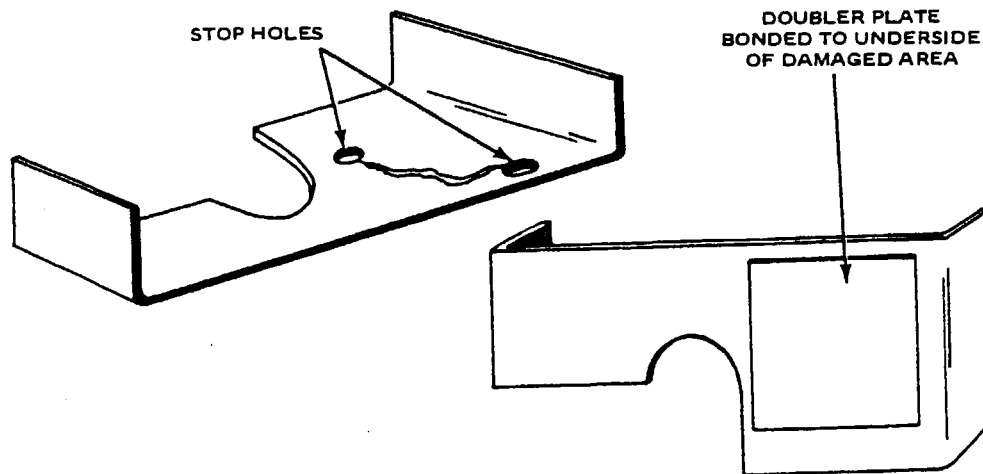

Figure 4-35. Repairing of Cracks
- d. Cracks: (Refer to Figure 4-35.)